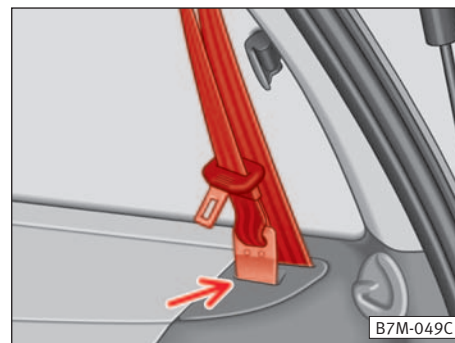

Fig. 18
- Guide the seat belt upwards on the flange and insert the hook into the retainer in the side trim ⇒ arrow, fig. 18.